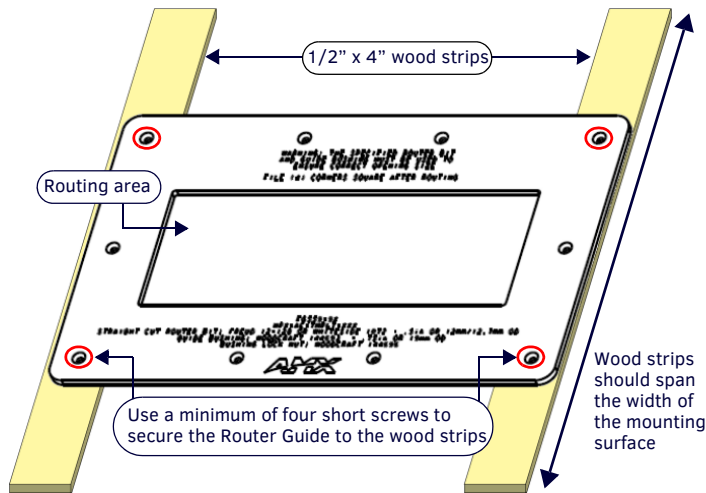

FIG. 5 SECURING THE ROUTER GUIDE
2. Use four or more short lock nut screws to secure the router guide to the wood strips (FIG. 5):